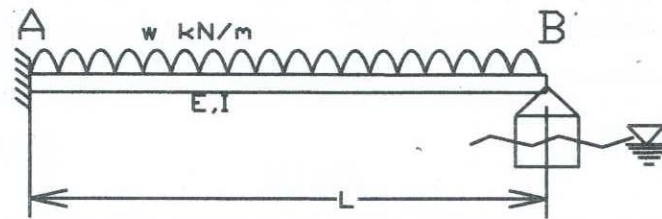

Fig. Q1
- Q1. Straight elastic beam AB of uniform cross section with constant flexural rigidity of EI deployed to anchor boats in a jetty is shown in the Fig Q1. Beam is permanently fixed to the Jetty at point A and floats on top of a cylindrical buoy radius R (in m) at point B as shown in Fig. Q1. Beam is expected to support a uniform distributed load of intensity  $w$  kN/m at critical condition. Using three moment theorem, derive an expression for the reaction at the floating support B (symbolic form). Ignore the self-weight of the beam AB and the self-weight of the Buoy (float). Consider float is at same level of the fixed support when the beam is in unloaded conditions. The buoyancy force of the float (uplift force acting on the structure due to water pressure) for 1 m length of immersion shall be taken as  $k$  ( $=\pi R^2 \rho g$ ). Assume that the water level remain constant along the section of the water way where the jetty is constructed.